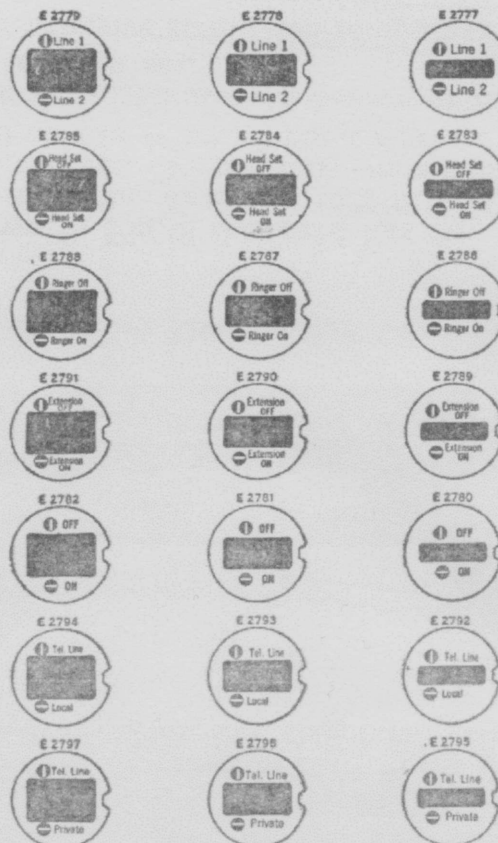

Fig. 6—Station Number Card Masks
2.21 Printed number card masks for use with turn-button type sets are shown in Fig. 6. These designation card masks are placed over the regular station number card in the card holder frame on the apparatus blank or dial.